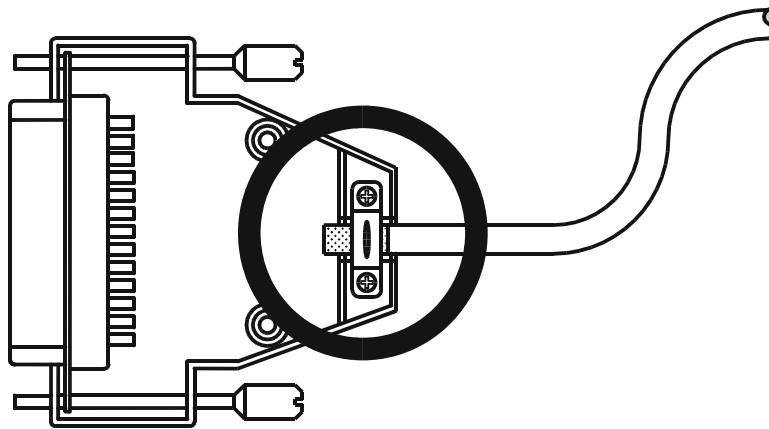

Fig. 2: Shielding of SUB-D connectors in conformity with the EMC standards.
- Only use metallised connectors, e.g. SUB-D with metallised housing. Please take care of direct connection of the strain relief with the housing here as well (see Fig. 2).